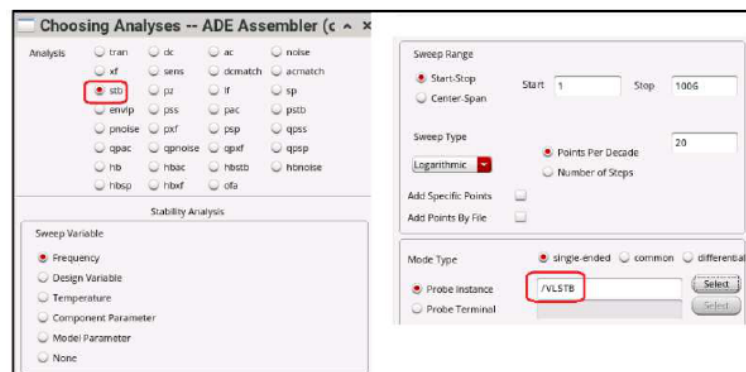

Figure 17. STB setup
- Students **set up and use STB analysis for frequency-response simulation** (not AC analysis) as **Figure 17**.